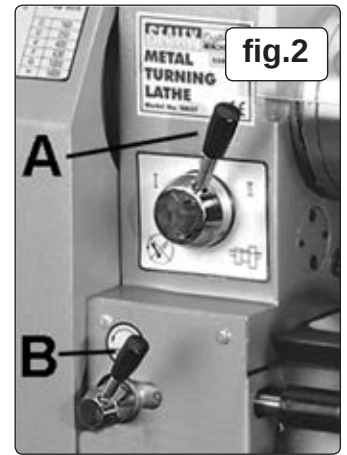

fig.2
- 6.1.1. Check that the forward/reverse switch is in the forward position (fig.1.9) and that the leadscrew lever (fig.2.A) is on zero.
- 6.1.2. Set the automatic feed lever (fig.2.B) to disengaged - turn clockwise.
6.7.3. Set the speed and forward/reverse switch to suit the job. The leadscrew lever (fig.2.A) should be at position O.
- 6.8.1. Proceed as in 4.7. but in 4.7.3. set the leadscrew lever (fig. 2.A) to I or II. With the gear set as supplied, position I will feed the tool at 0.075mm/rev and position II at 0.15mm/rev (see Auto Feed for Turning, fig.7). Ensure that the cross slide lock (fig.1.8) is not applied.
6.8.3. Turn the auto feed lever (fig.2.B) anticlockwise to engage the leadscrew. The tool will now move to the left and begin cutting.
- 6.9.8. With the tool positioned for the first cut, ensure that the automatic feed is engaged (fig.2.B) and that the leadscrew lever (fig.2.A) is set to I or II as required for the thread.
- 6.9.12. Reposition the tool for the second cut by moving the forward/reverse switch (fig.2.C) to reverse and starting the lathe. When the tool clears the start of the thread switch off the lathe.